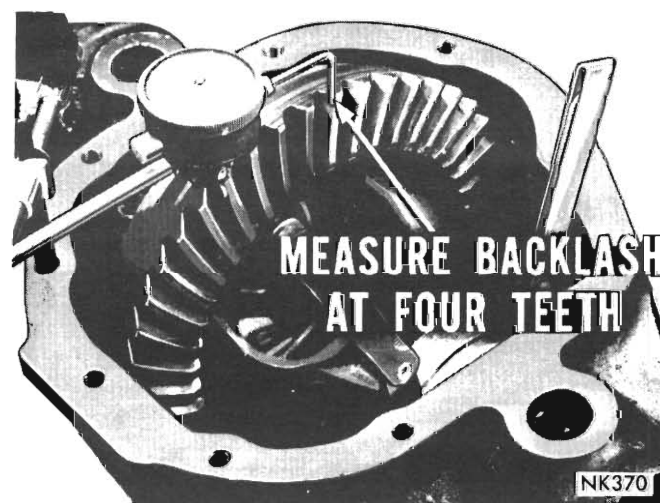

Fig. 31 - Finding minimum backlash
(6) Measure the drive gear backlash (see Fig. 31) and refer to the "Differential Preload Spacer Selection Chart" for the proper spacers to provide .005" to .007" backlash (Page 16). Measure the backlash at 90° intervals.
(7) Remove the differential from the carrier housing and install the proper spacers for left and right sides as specified by the "Differential Preload Spacer Selection Chart."